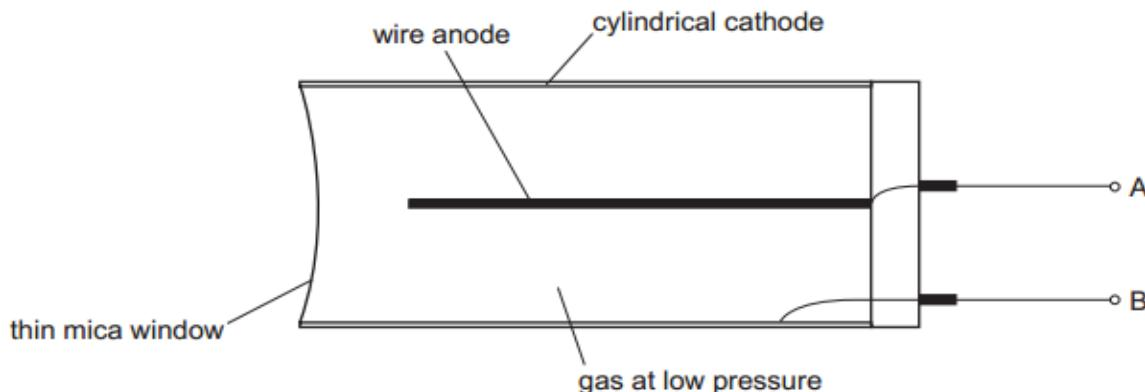

Fig. 2.1
- 2 One type of radiation detector known as a Geiger-Müller tube is shown in Fig. 2.1.